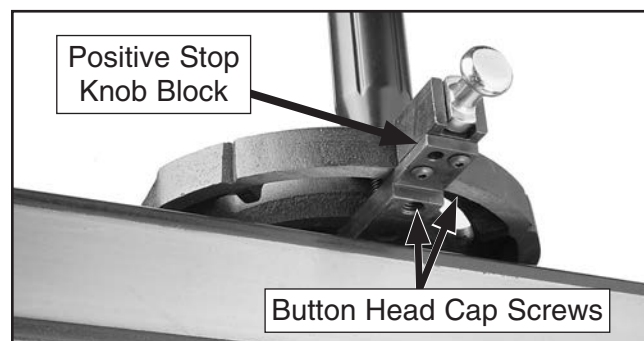

Figure 124. Screws for adjusting miter body.
5. Loosen button head cap screws on positive stop knob block (see **Figure 124**), adjust miter body until it is flush with square, then tighten screws.